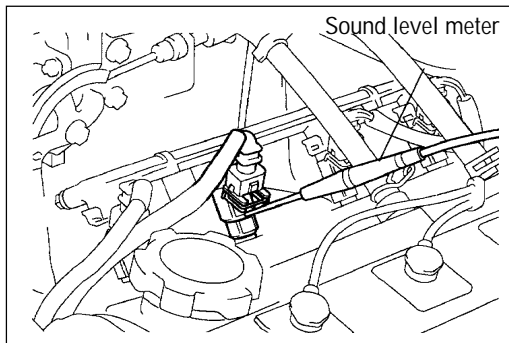

Figure 3-9
(1) Warm the engine up to 2,500r/min at least, and check the noise of the injector with a sound level meter (see Figure 3-9).
(2) When the throttle releases, the noise from the injector should stop immediately; repeat several times.